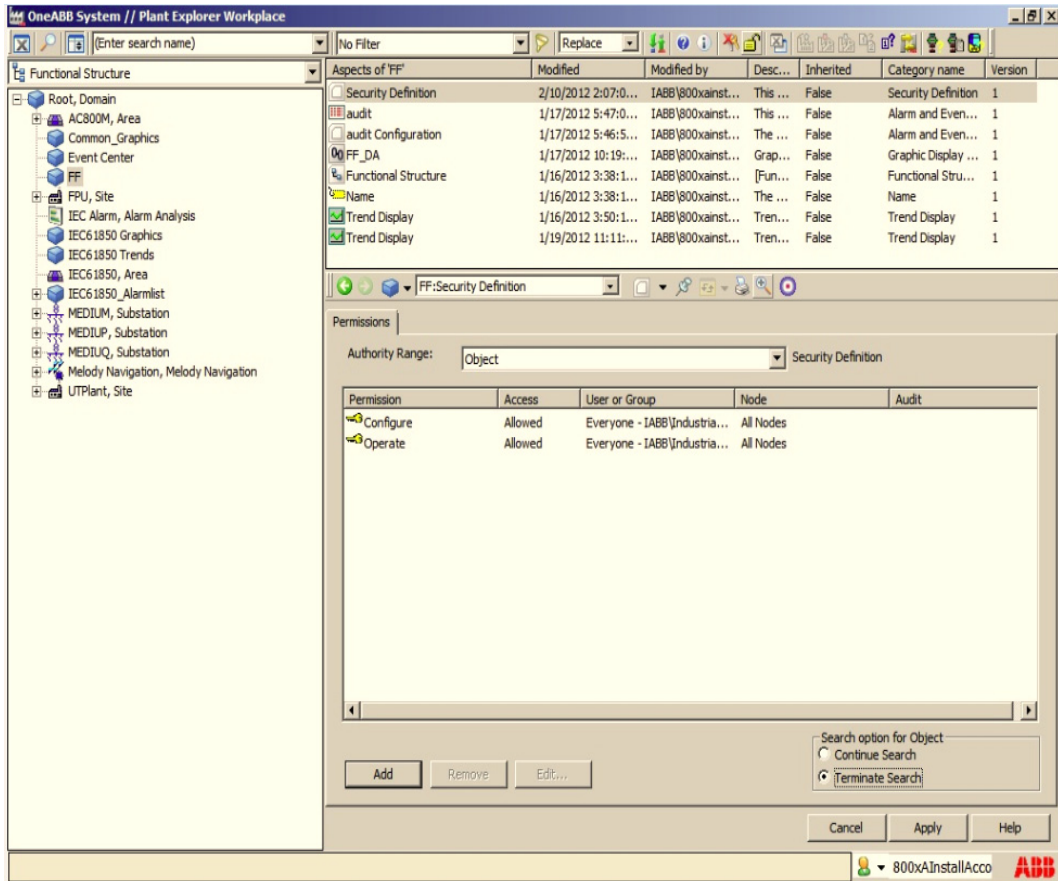

Figure 14. Security Definition Aspect Dialog Box
A Security Definition aspect specifies (see Figure 14):
**Permissions** in the Permission area (see Figure 14). Define the user **identity** or **group**, **location**, and **permission** granted or denied.